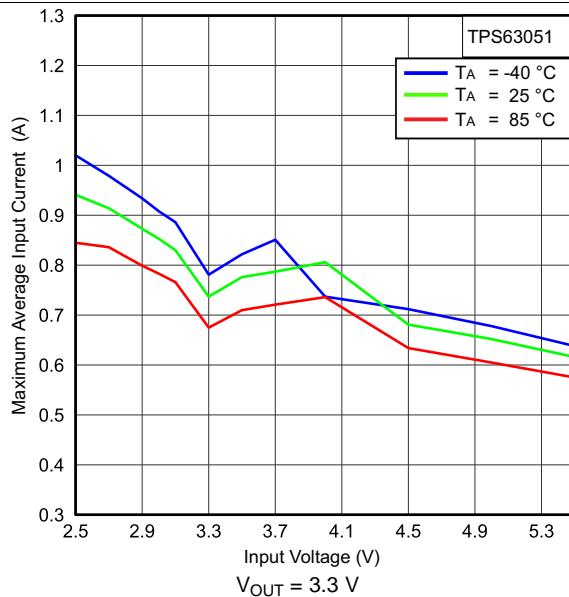
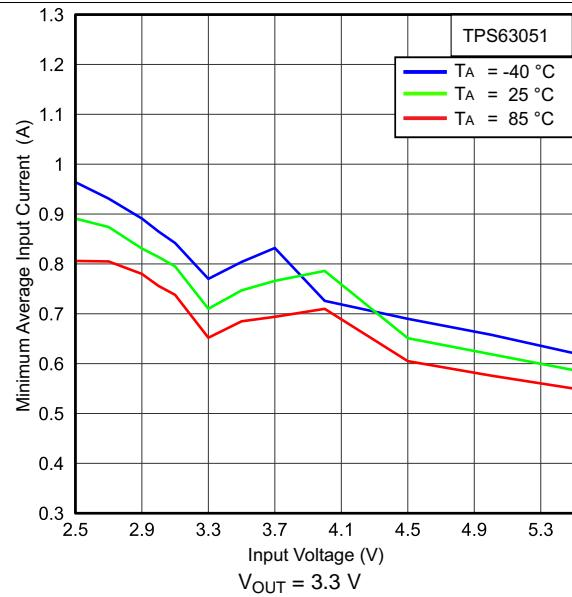

Figure 1. Maximum Average Input Current vs Input Voltage
Figure 2. Minimum Average Input Current vs Input Voltage
(1) For minimum and maximum output current in a specific working point see Figure 1 and Figure 2; and Equation 1 through Equation 4.
(2) Conditions:  $T_J = -40^\circ\text{C}$  to  $85^\circ\text{C}$
(3) Conditions:  $f = 2.5 \text{ MHz}$ ,  $L = 1.5 \mu\text{H}$ ,  $C_{OUT} = 10 \mu\text{F}$
The TPS6305x devices have an internal user programmable current limit that monitors the input current during start-up. This prevents high inrush current protecting the device and the application. During start-up the input current does not exceed the current limit that is set by  $I_{LIM0}$  pin and  $I_{LIM1}$  pin. Depending on the logic level applied at these two pins, switching between four different current limit-levels is possible. The variation of those values over input voltage and temperature is shown in Figure 1 through Figure 2. Adjusting the soft-start time further using the soft-start capacitor is possible.
Given the curves provided in Figure 1 through Figure 2, calculating the output current in the different condition in boost mode is possible using Equation 1 and Equation 2 and in buck mode using Equation 3 and Equation 4.
- $I_{IN}$  = Minimum average input current (Figure 2 to Figure 2)
- (2)